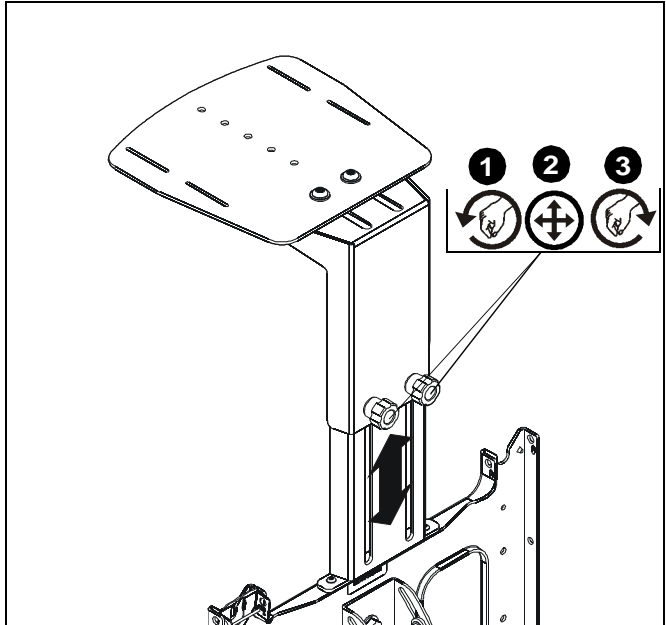

Figure 4
1. Loosen two adjustment knobs on the back of the video conferencing shelf (A). (See Figure 4)
2. Raise or lower shelf to desired height. (See Figure 4)
3. Tighten two adjustment knobs on the back of the shelf until mount is secure. (See Figure 4)